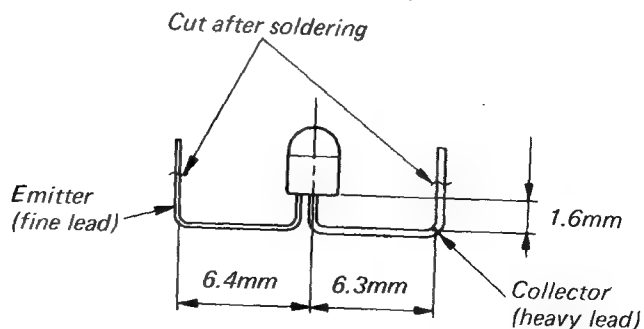

Fig. 1-3-11 Forming of photo transistor leads
- 2) Remove the FL P.C. board (R) unhooking the mold claws on the guide R.
- 4) Bend leads of a new photo transistor as shown in Fig. 1-3-11.